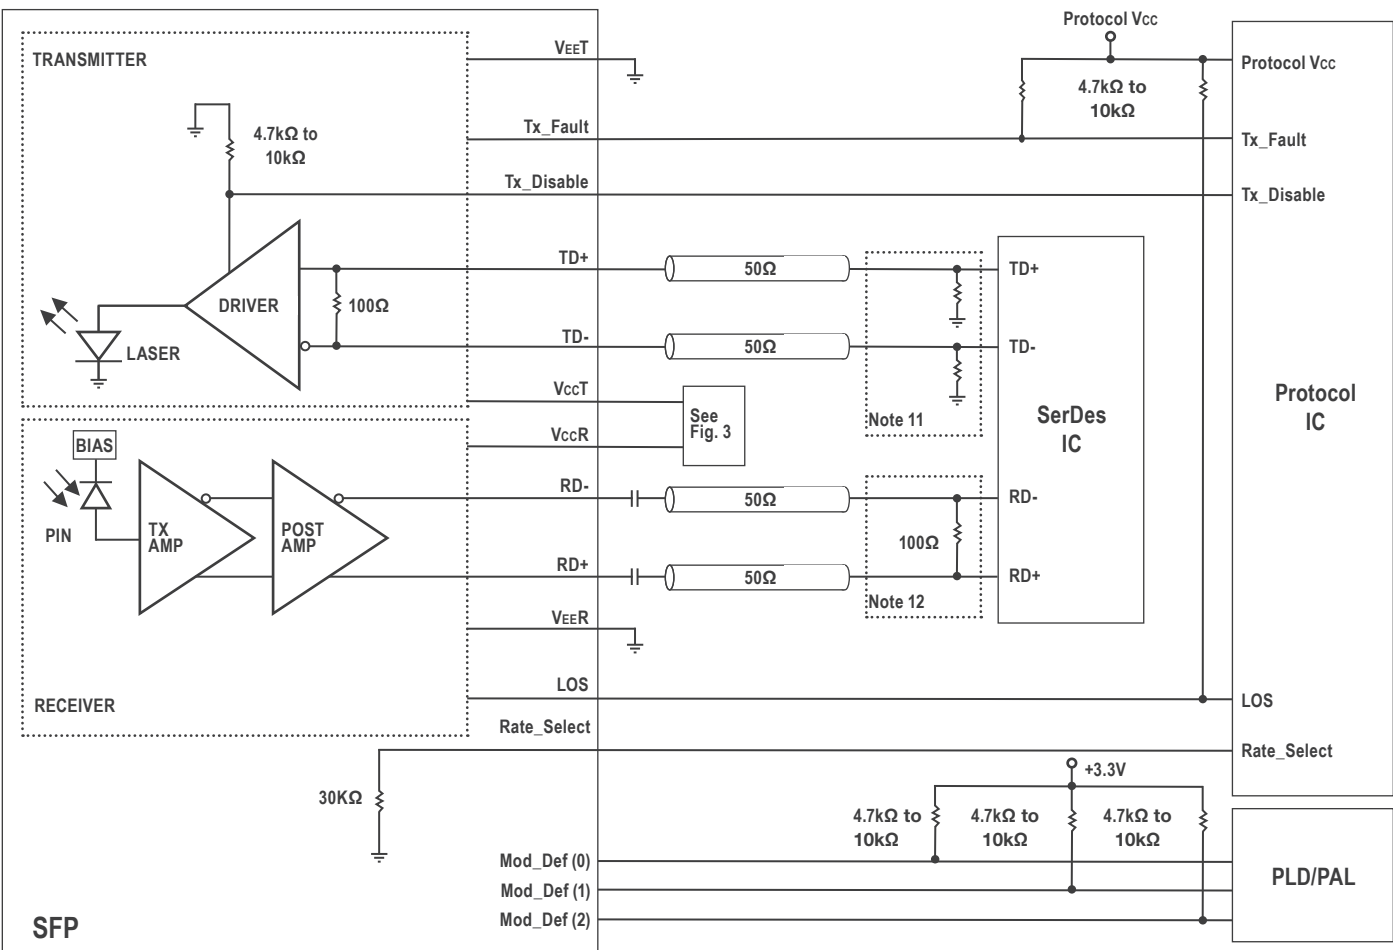

Figure 1 Illustrates the recommended transmit and receive data line terminations.
- Note 8** **RD -/+:** These are the differential receiver signal outputs. They are 100 Ω differential lines which should be terminated with 100 Ω (differential) at the user SERDES. The voltage swing on these lines will be between 400 and 1200 mV p-p differential (200-600 mV p-p single ended) when properly terminated (**Figure 1**).